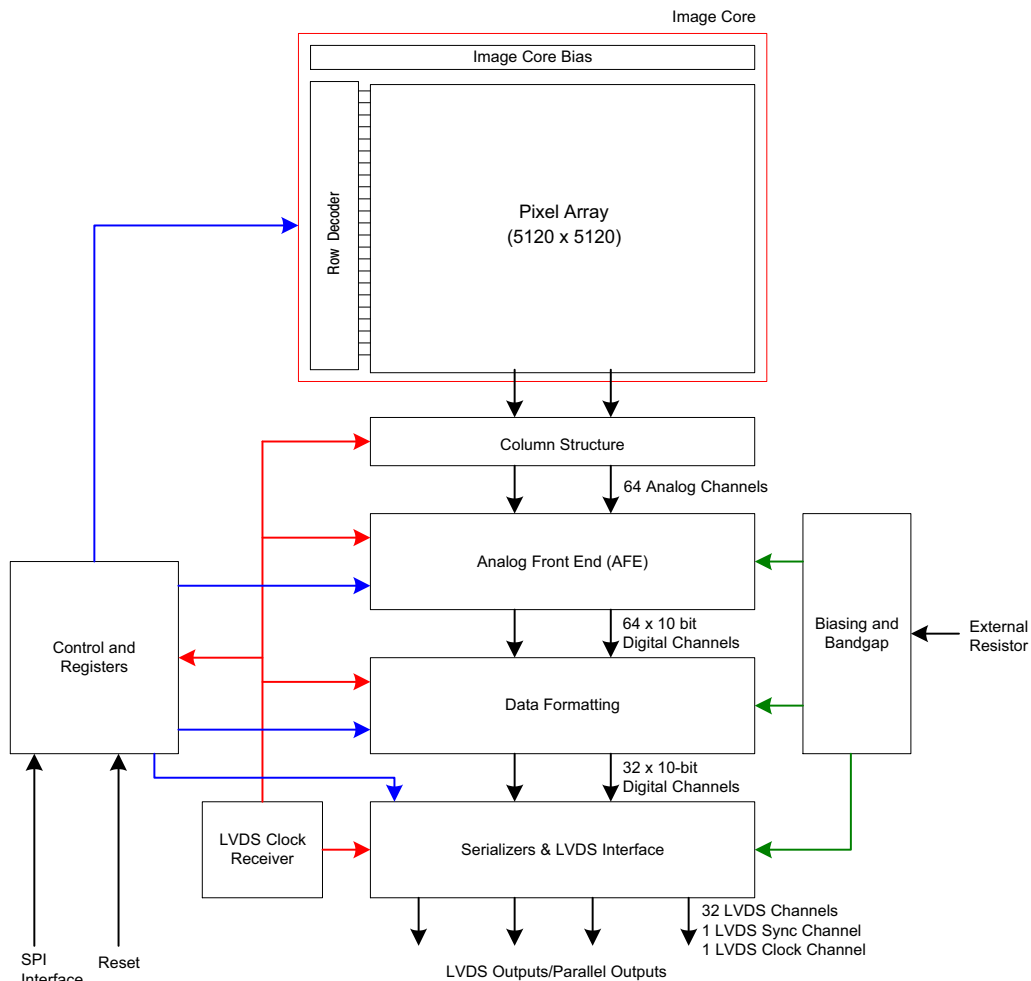

Figure 5. Block Diagram
Figure 5 gives an overview of all functional blocks in the image sensor. The system clock is received by the LVDS clock receiver block and distributed to other blocks. The sequencer defines the sensor timing and controls the image core. The sequencer is started either autonomously (master mode) or on assertion of an external trigger (slave mode). The image core contains all pixels and readout circuits. The column structure selects pixels for readout and performs correlated double sampling (CDS) or double sampling (DS). The data comes out sequentially and is fed into the analog front end (AFE) block. The programmable gain amplifier (PGA) of the AFE adds the offset and gain. The output is a fully differential analog signal that goes to the ADC, where the analog signal is converted to a 10-bit data stream.